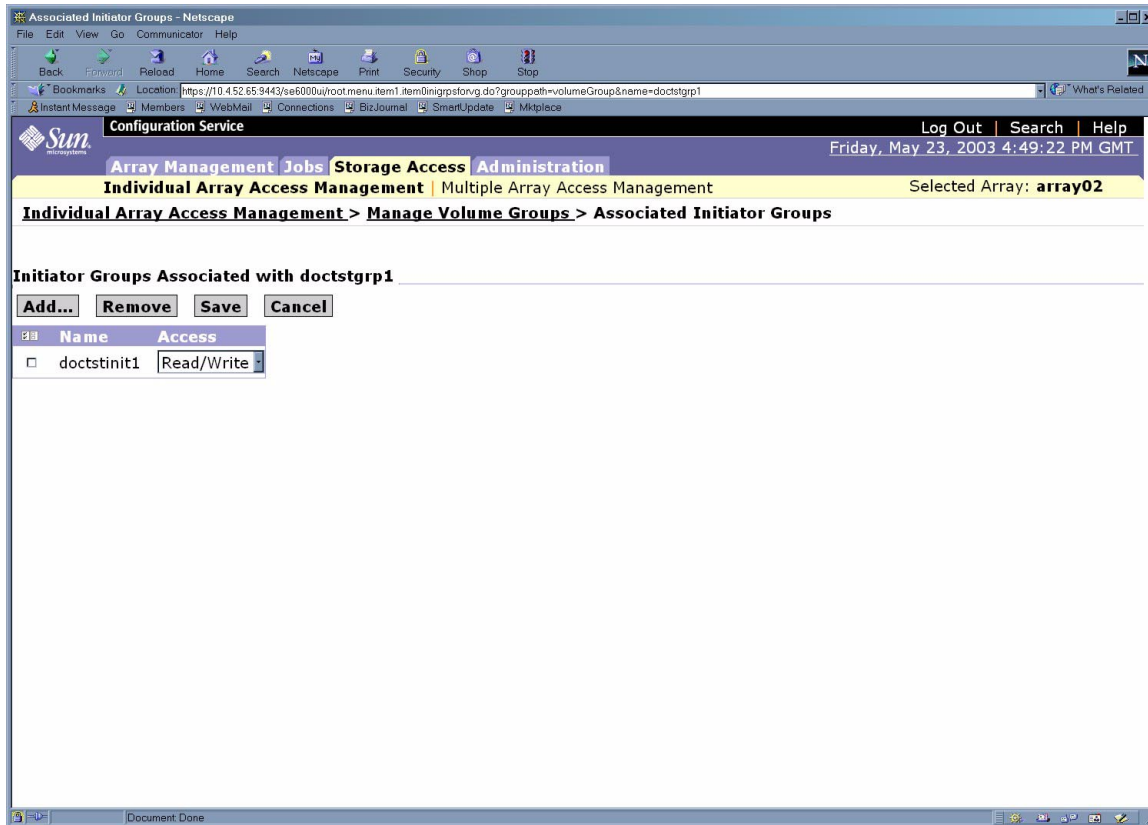

FIGURE 6-39 Initiator Group Associated with Doctstgrp1
7. Click on show associated with the doctstgrp1 volume group and the initiator group associated with the volume group is displayed as shown in FIGURE 6-39.